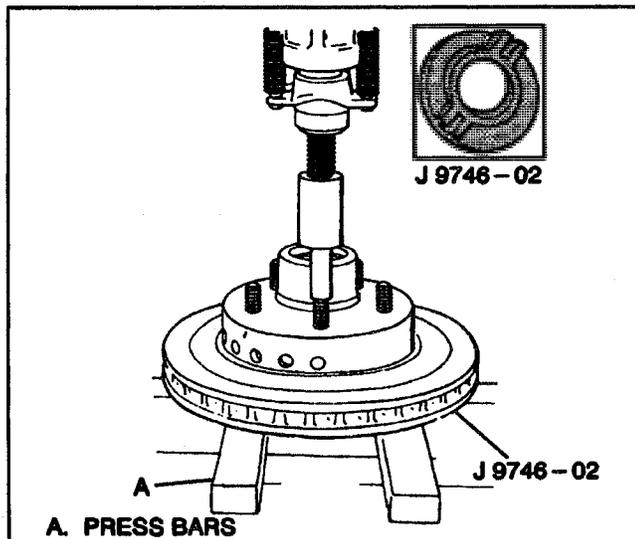

Figure 9—Removing the Wheel Hub Bolts
Remove or Disconnect (Figure 9)
- Support the hub/rotor using J 9746-02 and the press bars (Figure 9).